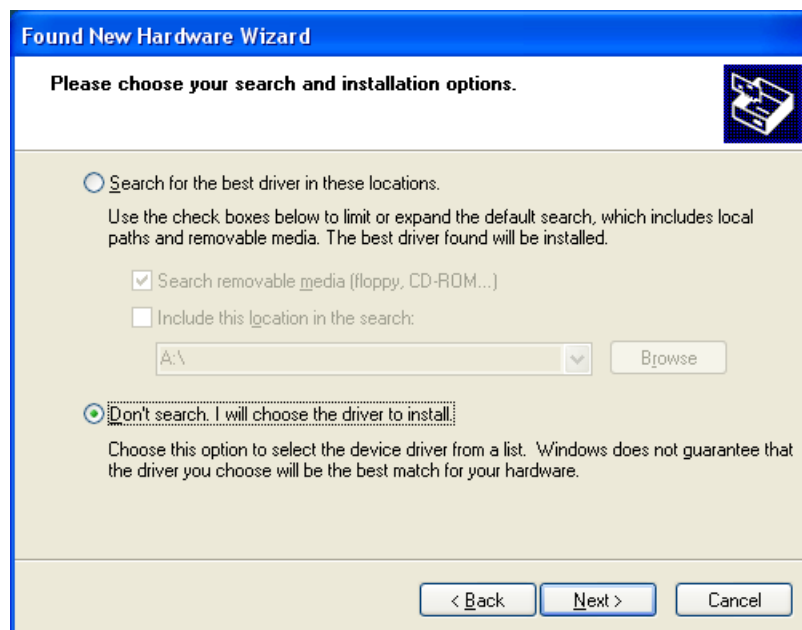

Fig. 1-9 Choose search and installation option
- 3) A dialog box as Fig. 1-9 will pop up. Select “Don’t search, I will choose the driver to install”, and click [Next] to continue.